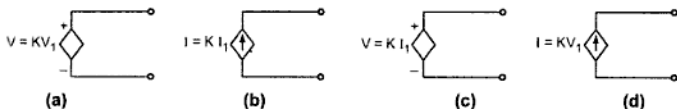

Fig. 1.20
Dependent sources are those whose value of source depends on voltage or current in the circuit. Such sources are indicated by diamond as shown in the Fig. 1.20 and further classified as,
i) Voltage Dependent Voltage Source : It produces a voltage as a function of voltages elsewhere in the given circuit. This is called **VDVS**. It is shown in the Fig. 1.20 (a).
ii) Current Dependent Current Source : It produces a current as a function of currents elsewhere in the given circuit. This is called **CDCS**. It is shown in the Fig. 1.20 (b).
iii) Current Dependent Voltage Source : It produces a voltage as a function of current elsewhere in the given circuit. This is called **CDVS**. It is shown in the Fig. 1.20 (c).
iv) Voltage Dependent Current Source : It produces a current as a function of voltage elsewhere in the given circuit. This is called **VDCCS**. It is shown in the Fig. 1.20 (d).
iv) **Voltage Dependent Current Source** : It produces a current as a function of voltage elsewhere in the given circuit. This is called VDCS. It is shown in the Fig. 1.20 (d).